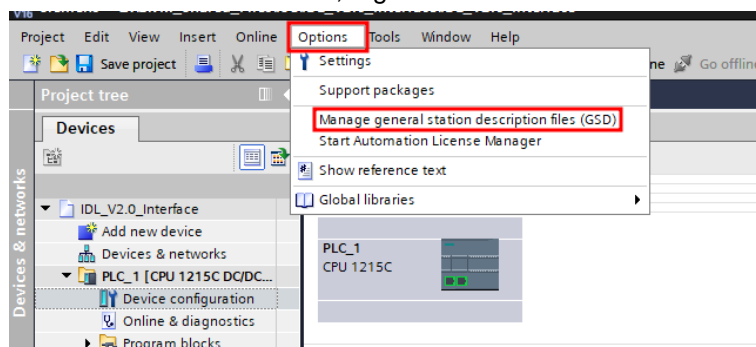

Figure 1: Options > Manage GSD Files
4. Select “Options” scroll to and select “Manage general station description file (GSD),” Figure 1